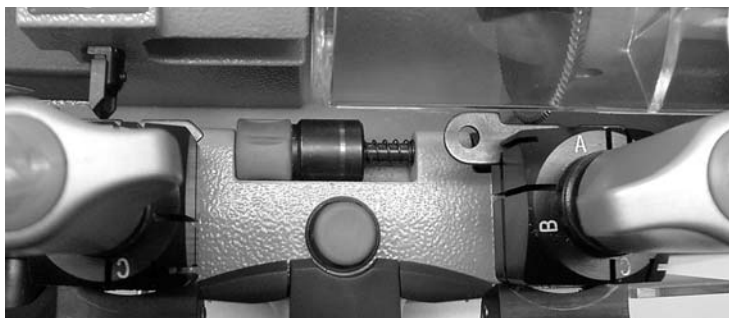

Fig. 14
- 5) Take the flat part of the key into contact with the cutting tool and tracer point (fig.14).